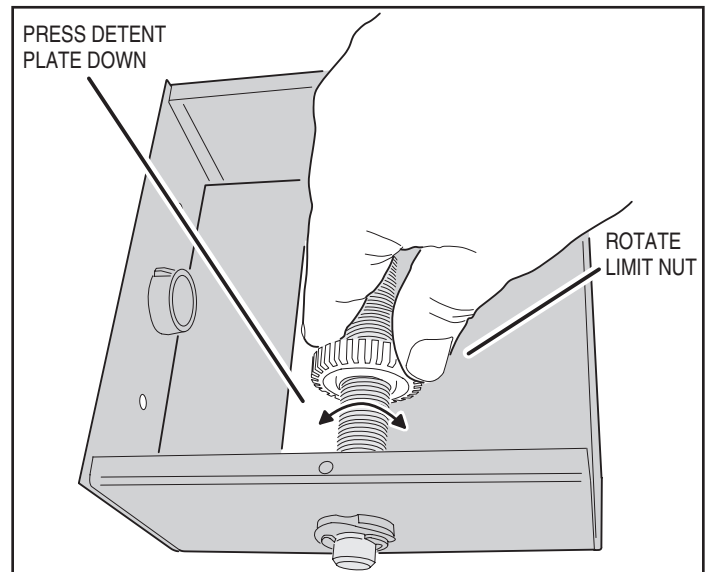

Figure 12. Setting the Limits
2. To adjust the limit nuts, press down on the detent plate and rotate the limit nut along the threaded shaft (see Figure 12).